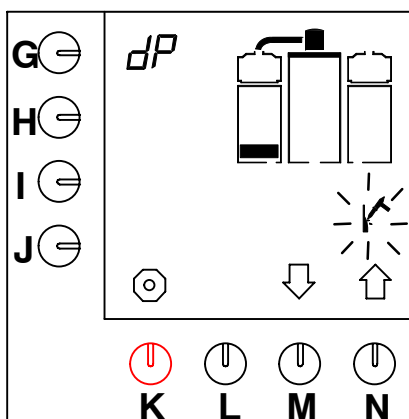

Fig. 20 First level descaling programme coffee-making system
- The first level block appears on the display and the hammer symbol flashes (fig. 20 ).